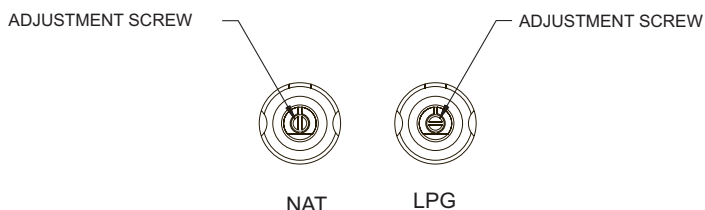

Figure 20
5. Place burners into grill and insert burner tubes over orifice fittings. Secure each burner with one (1) 1/4-20 x 3/4 phillips screw from Step 2.
7. The low input adjustment screws are located inside the two valve stems. Use a small screwdriver to turn each adjustment screw clockwise 1/4 turn (90 degrees). When valves are in the "OFF" position, the slot in the adjustment screw should be vertical. See Figure 20.